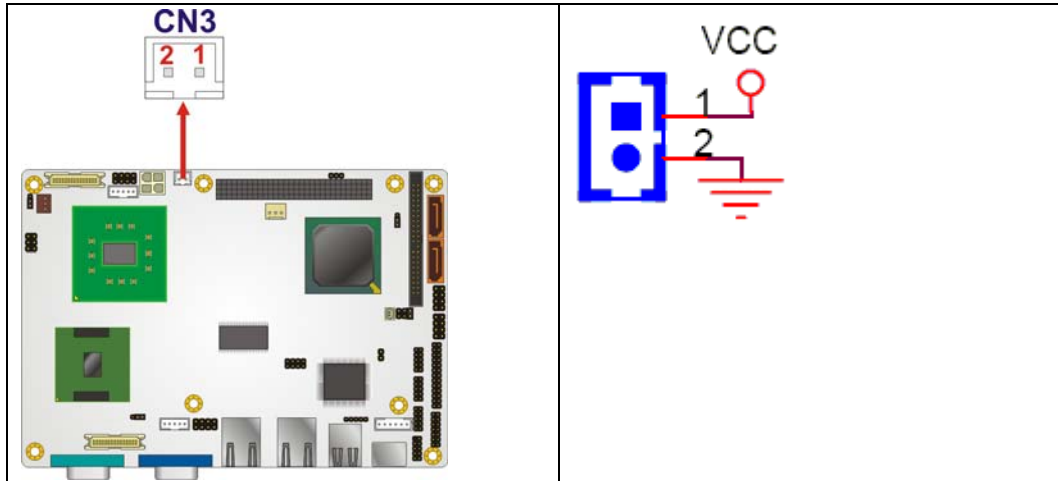

Figure 4-3: 5V Power Connector Pinouts
- CN Location:** See Figure 4-3